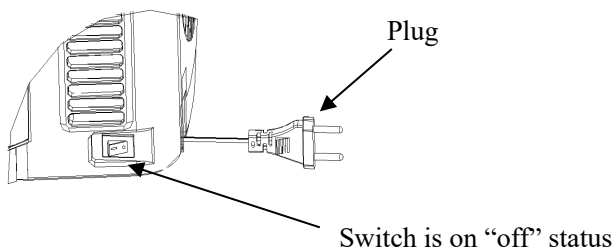

Figure 12
3. Turn on the power switch to "1" position to power on the beer cooler. (While "0" position is to power off) (Show as figure12).